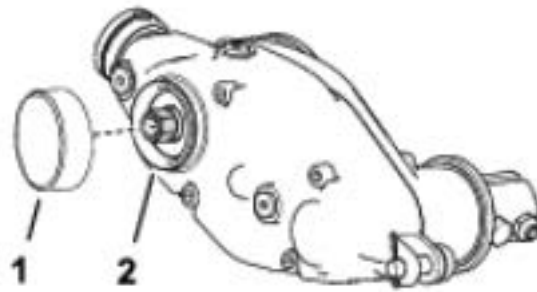

Figure 4
137-0812	High deflection output shaft seal. (Figure 4 Item 2)
1. Apply medium-strength cylindrical bonding retaining compound (such as Green Loctite 609[®]) around the snap ring groove and the inside diameter surface of the cap. (Figure 4)
2. Install the cap as shown in Figure 4.